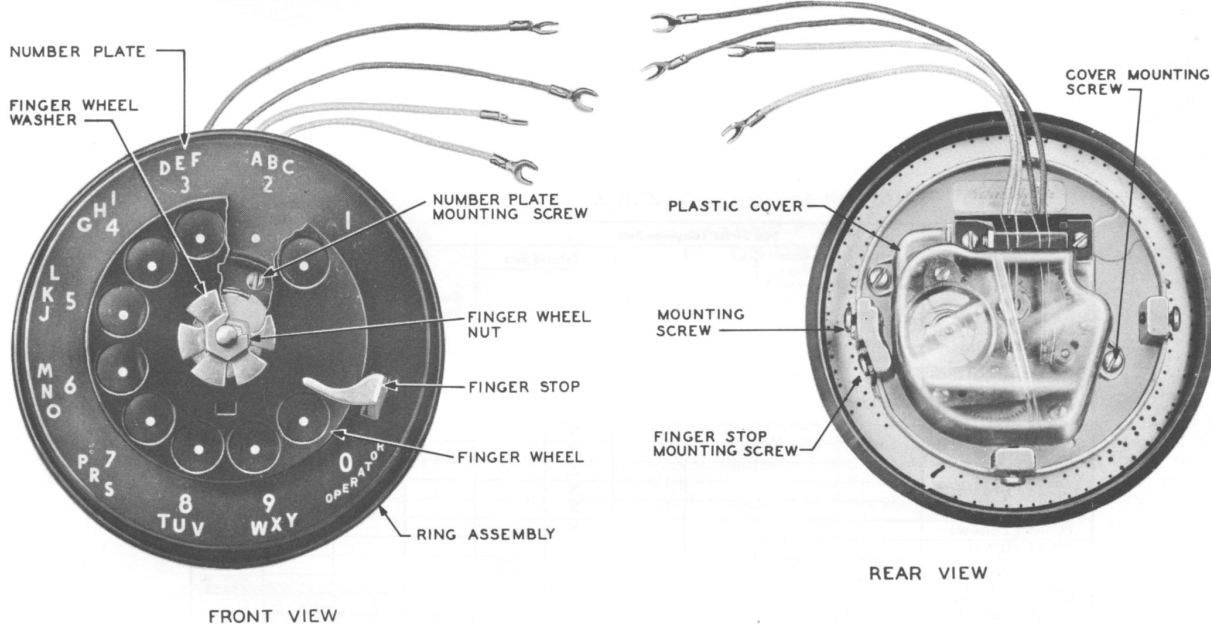

Fig. 1—7-type Dial
2.01 Figs. 1 through 3 illustrate the 7-, 6-, and 4-type dials.